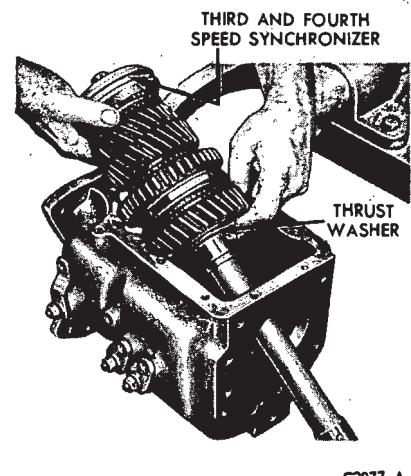

FIG. 10—Removing Output Shaft Assembly
first-speed gear to prevent them from sliding off the shaft, then lift the output shaft assembly from the case as shown in Fig. 10.
22. Support the thrust washer and first-speed gear to prevent them from sliding off the shaft and carefully lower the output shaft assembly into the case as shown in Fig. 10.